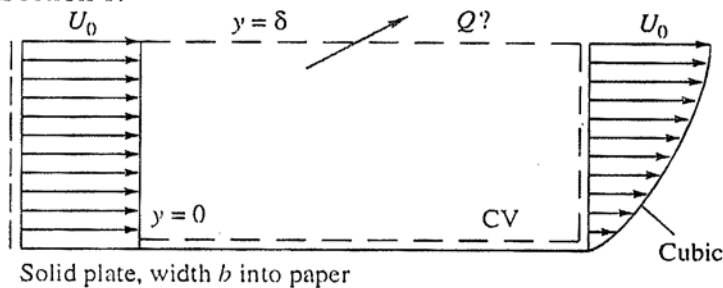

Fig. Q4.
- (b) An incompressible fluid flows past an impermeable flat plate, as in Fig. Q4, with a uniform inlet profile $u=U_0$ and a cubic polynomial exit profile